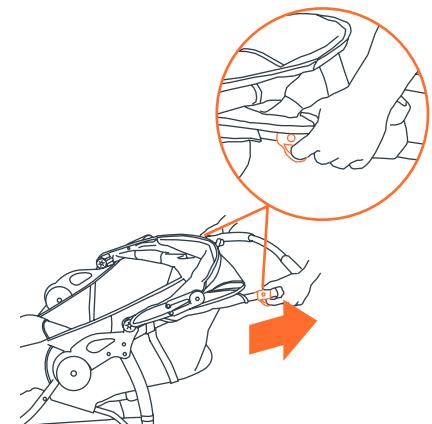
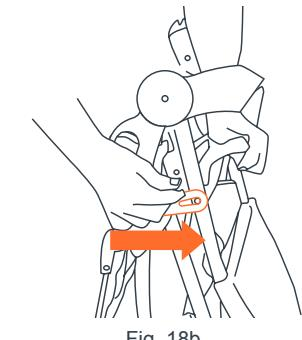

Fig. 18a
Fig. 18b
- The stroller is folded by simultaneously pulling each trigger (Fig. 18a). When the fold latches are released, the handle will begin to fall toward the floor. Release the fold buttons and press downward on the stroller handle until the stroller is completely folded. Secure the stroller in the folded position by locking the fold latch, located on the right side of the stroller, over the rivet that protrudes from the frame (Fig. 18b).